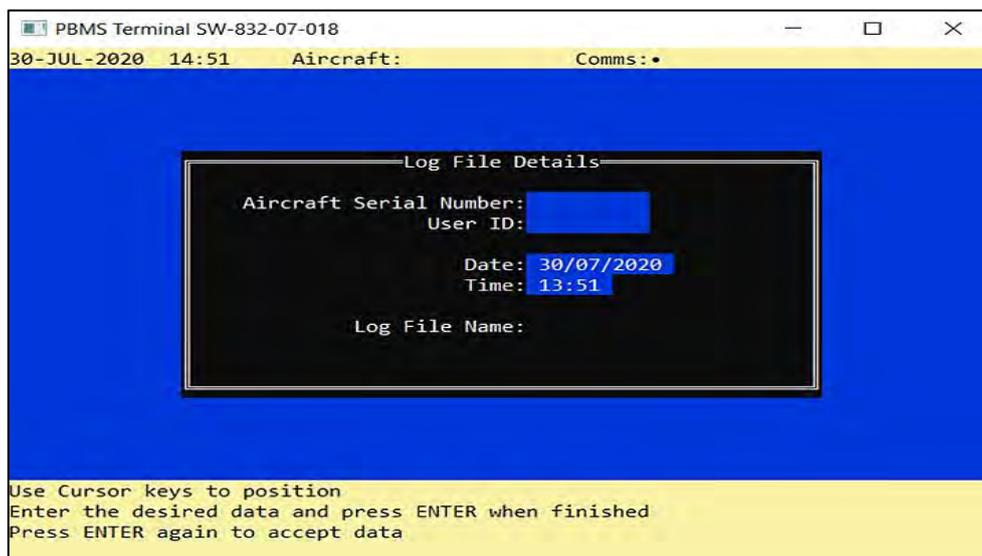

Figure 3-7 Log File Details
- (1) Switch on the PBMS Terminal (Laptop PC).
- (2) Switch on the NVS on the Flight Attendant Panel.
- (3) Double click the PBMS icon created on the Windows Desktop.
- (4) Wait 30 seconds for the ANCU to initialise.
- (5) The Welcome Screen will Display (**Ref Fig 2-1**) after 5 seconds the Log File Details Screen will be shown on the PBMS Terminal Display (**Ref Fig 3-7**).